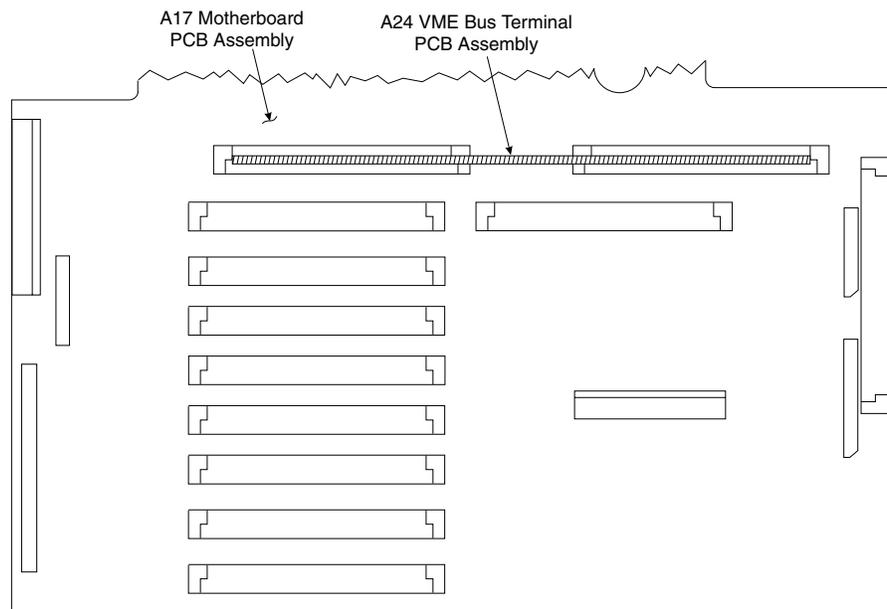

Figure 8-5. Location of the A24 VME Bus Terminator PCB Assembly
Step 2. Locate the A24 PCB assembly (Figure 8-5). Unplug A24 PCB assembly from the A17 Motherboard PCB by gently pulling straight up on each side.